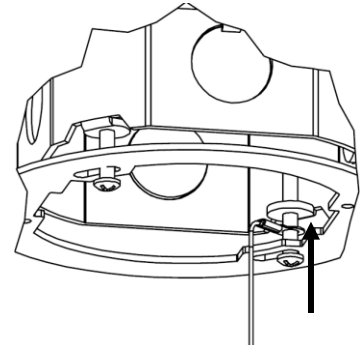

Figure 5 – Method B
- B) Thread the tether eyelet through the screw **BEFORE fastening the mounting plate to the junction box**. Ensure that the tether eyelet is placed in between the mounting plate and junction box, as shown in *Figure 5*.